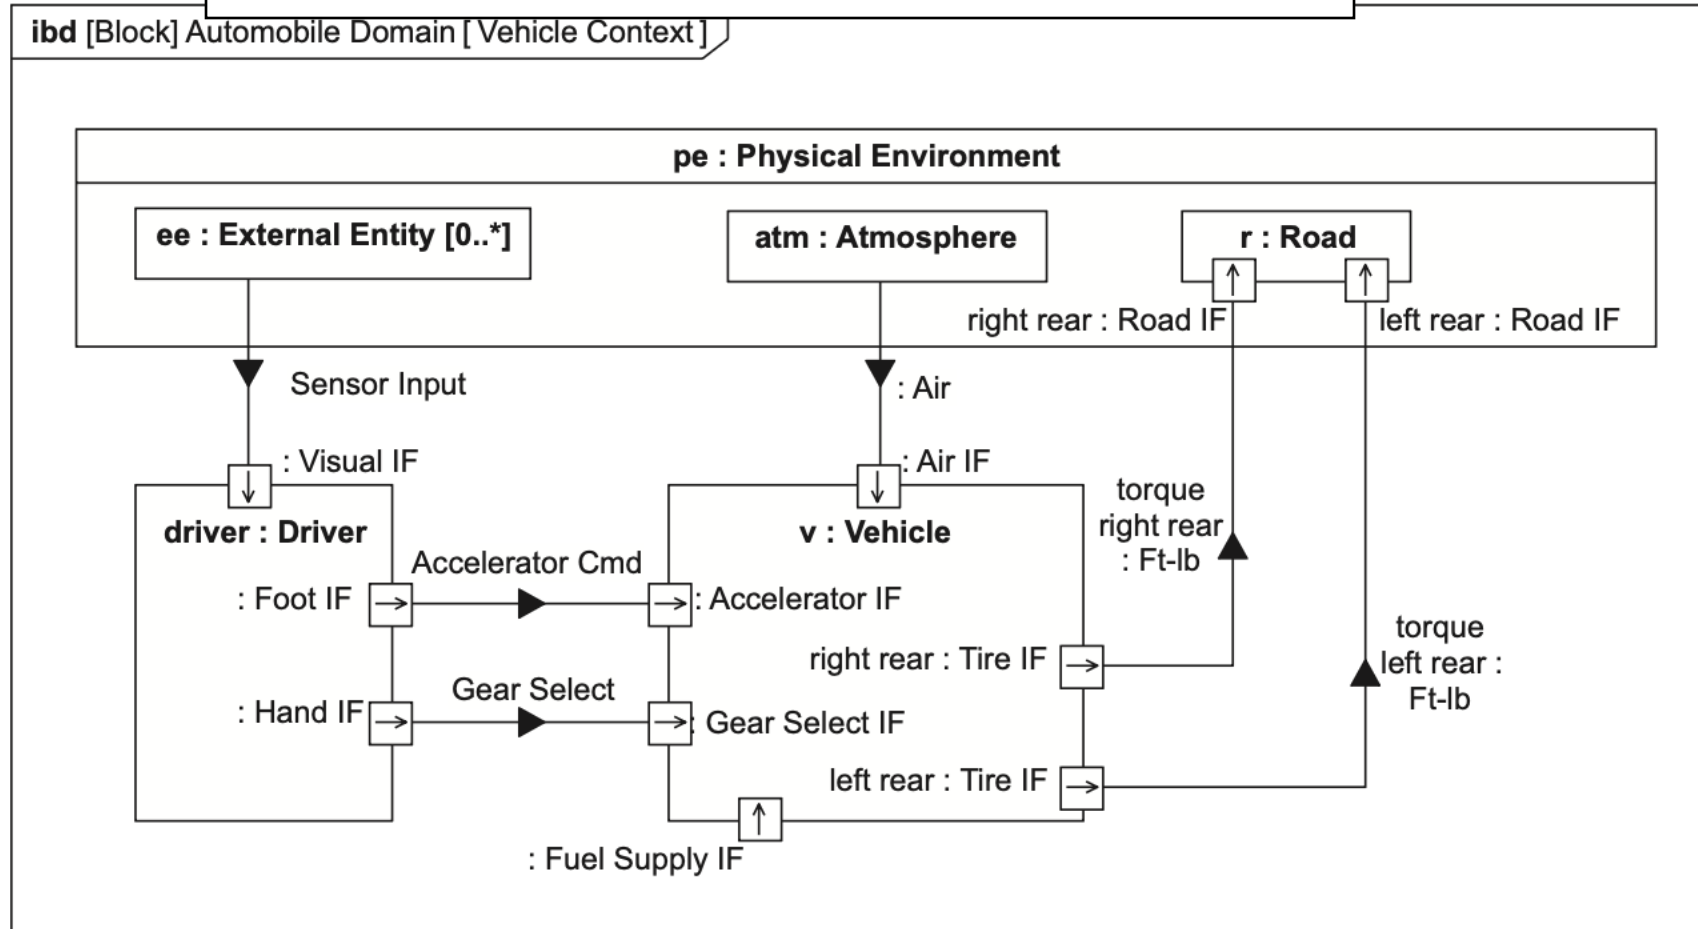

**FIGURE 4.3**
The internal block diagram for the *Automobile Domain* describes the *Vehicle Context*, which shows the *Vehicle* and its external interfaces with the *Driver* and the *Physical Environment* that were defined in Figure 4.3.
*Automobile Domain* block from Figure 4.3 is referenced since it is the subject of the analysis.